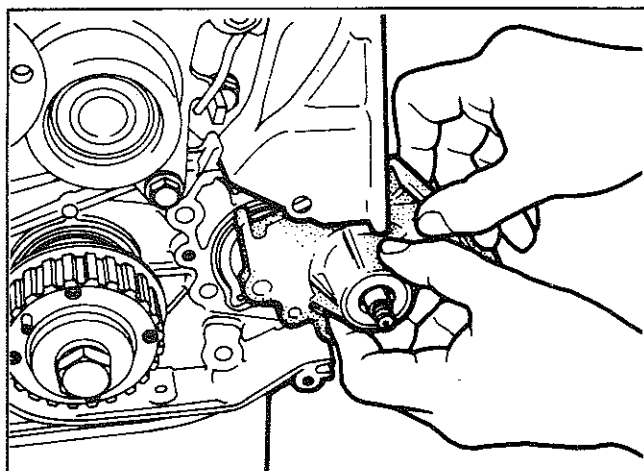

Fig. 5—Removing oil pump assembly
- (3) Remove the oil pump cover attaching bolts.
- (4) If the lower rear belt cover has not been removed, the oil pump can be removed by sliding it out towards the left of the engine as shown in Fig. 5.
- (5) Remove the rotor from the oil pump cover.